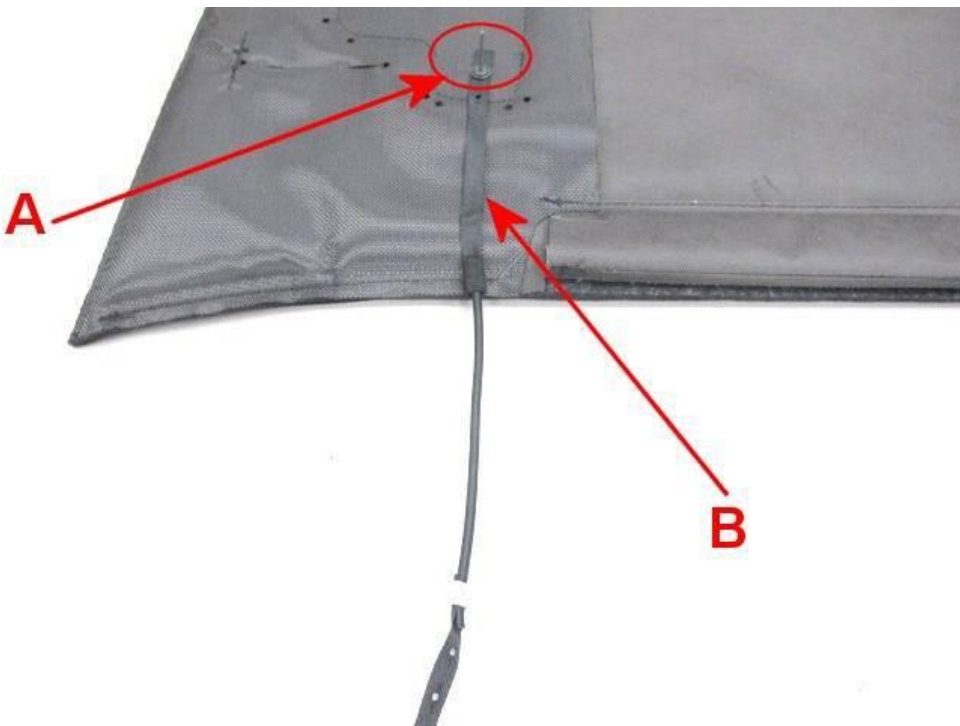

Figure 6
- Referring to Figure 6 - Insert the rivet and strap assembly into the hole (A) IMPORTANT: When positioning the new strap prior to riveting ensure the orientation is correct: The long strap end should be as (B) NOTE: *The strap should be positioned as shown*